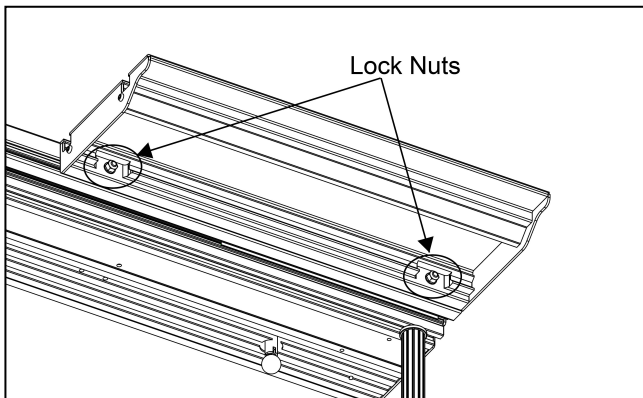

Fig.13
9. Insert the T-nuts of the extension table into the T-slot on the outside edge of the sliding table, then tighten the lock nuts to secure the extension table in place, as shown in **Fig. 13**.